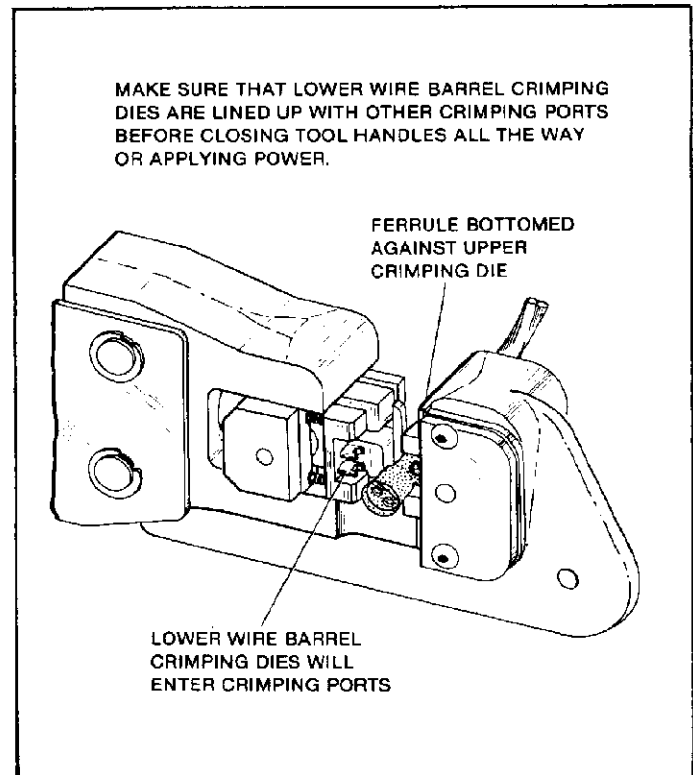

Figure 3
- (c) Place contact in upper crimping die as shown in Figure 3.
- (e) Push contact "up" so that upper barrel crimping dies enter crimping ports and ferrule bottoms against braid-ferrule crimping die. See Figure 3.
1. Place contact on stationary die as previously described. See Figures 3 and 4.